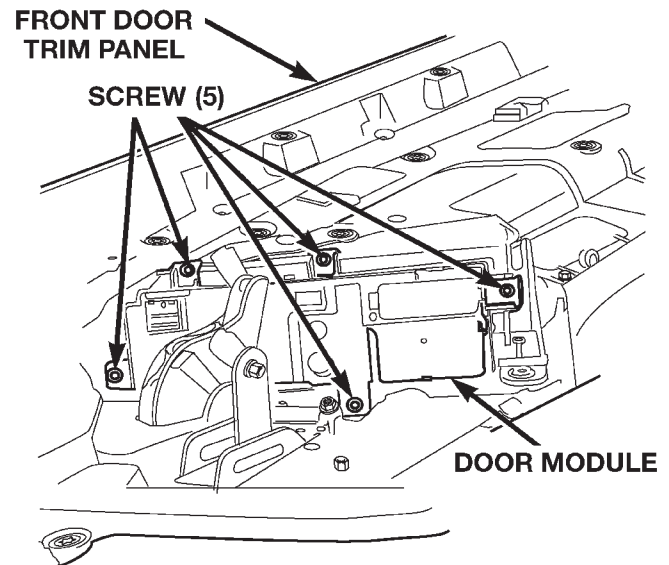

Fig. 1 Door Module Remove/Install
(1) Disconnect and isolate the battery negative cable.
(2) Remove the trim panel from the front door. Refer to **Front Door Trim Panel** in the Removal and Installation section of Group 23 - Body for the procedures.
(3) Remove the five screws that secure the door module to the back of the front door trim panel (Fig. 1).